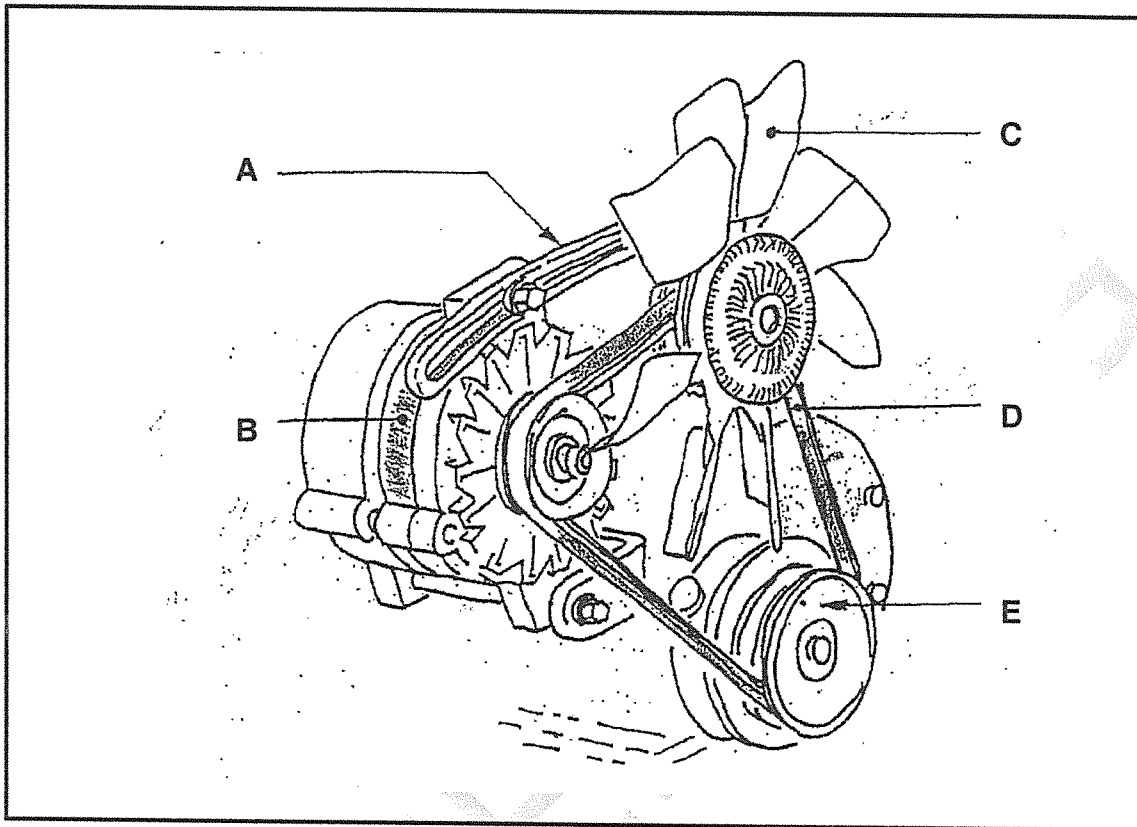

FIGURE 1
- 1.2 FIGURE 1 below shows a sketch of an engine. Name the parts by writing each answer next to the letter (A–E) in the ANSWER BOOK.